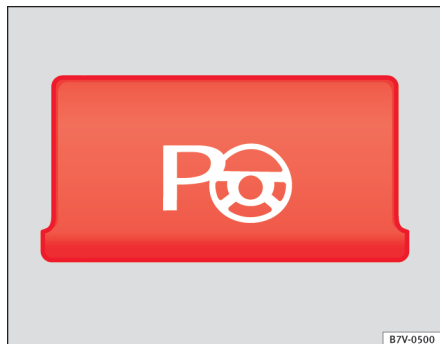

Fig. 144 Detailed view of the centre console: button to switch the park assist system on manually.
- **Parallel parking:** press the button  at speeds up to 50 km/h **once**. When the function is enabled, the button ⇒ fig. 144 will light up.
- **Perpendicular parking:** press the button  at speeds up to 50 km/h **twice**. When the function is enabled, the button ⇒ fig. 144 will light up.
- Press button . When the function is enabled, the button  $\Rightarrow$  fig. 144 will light up.